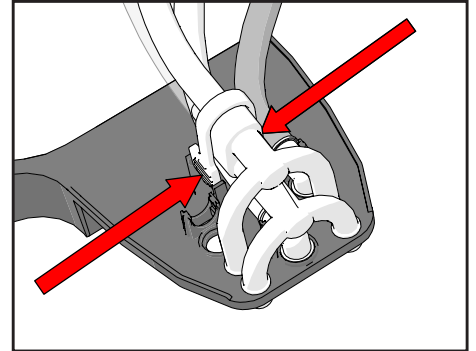
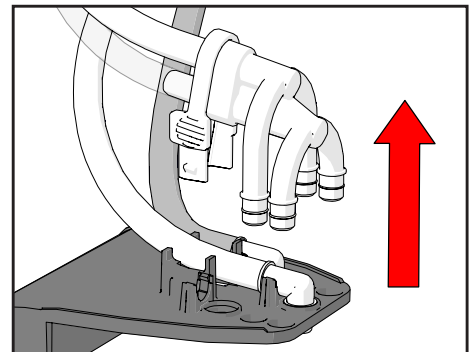
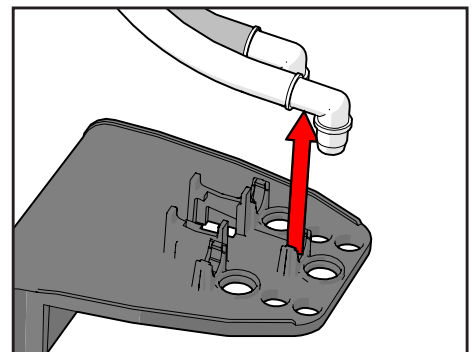

Figure 36.
Figure 37.
Figure 38.
4. Detach the spout from the arm (see Figure 36, Figure 37 and Figure 38).